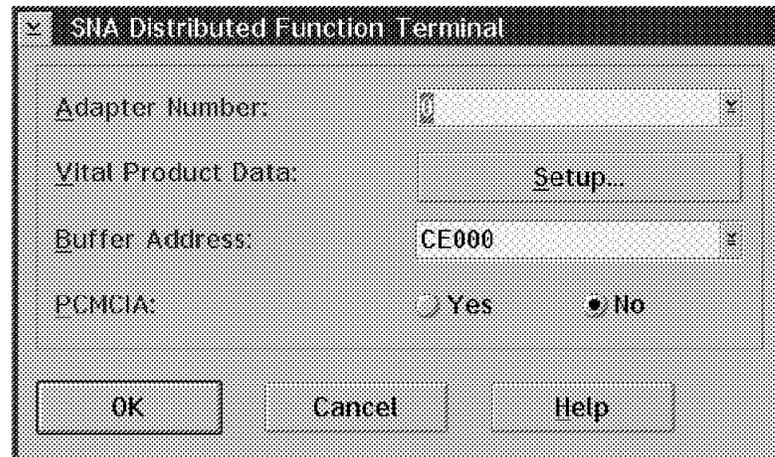
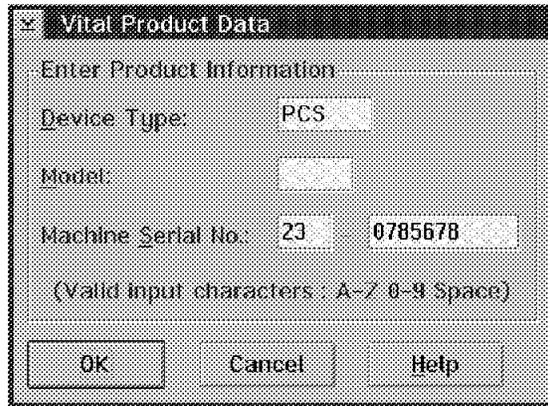

Figure 29. DFT Link Parameters - SNA/Non-SNA DFT Attachment
Figure 30. DFT Link Parameters Window - Vital Product Data
5. Click on **Configure Link...** in the Link Parameters box to get the SNA Distributed Function Terminal window shown in Figure 29.
On the window shown in Figure 29, you can select the adapter number you are using (0 is the first 3270 adapter). If you want to enter the Vital Product Data click on **Setup....** to get the Vital Product Data window shown in Figure 30 on page 40.